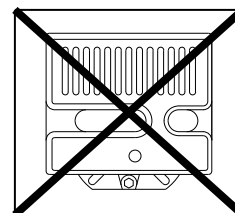

Fig. 7
- The burner is designed to operate only in positions **1**, **2**, **3** and **4** (Fig. 7).